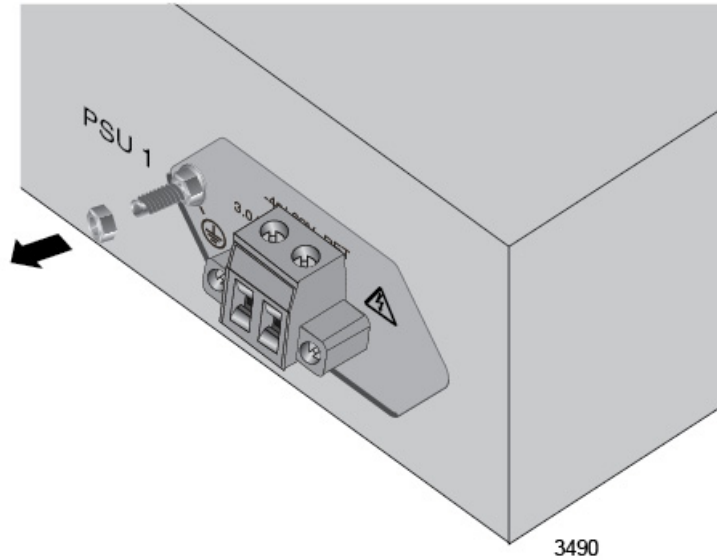

Figure 31. Removing the Nut from the Grounding Post
3. Use a 7mm wrench to remove the top nut from the grounding post on the power supply. Refer to Figure 31.